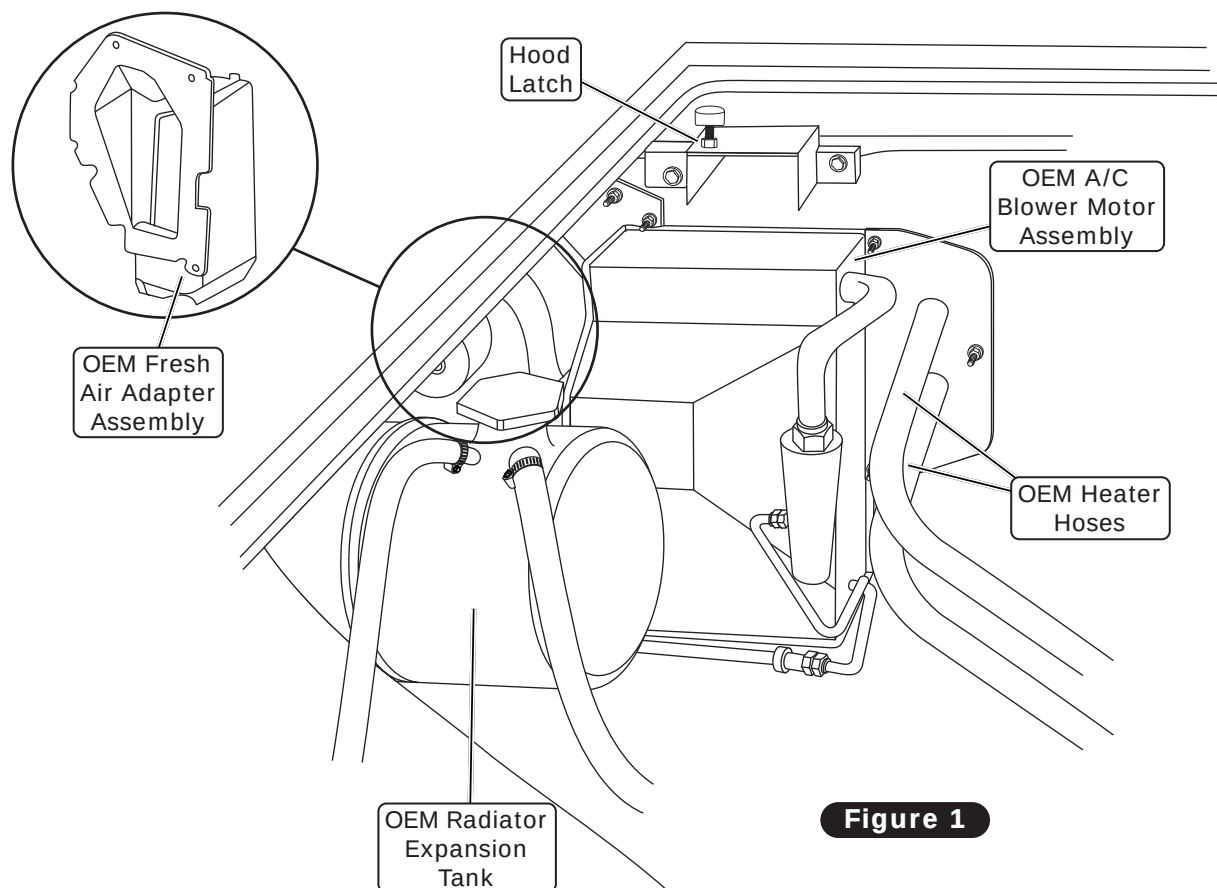

Figure 1
7. Remove OEM condenser and drier (discard) (See Figure 1, below).
10. Remove OEM heater hoses, A/C hoses, and hardlines (discard) (See Figure 1, below).